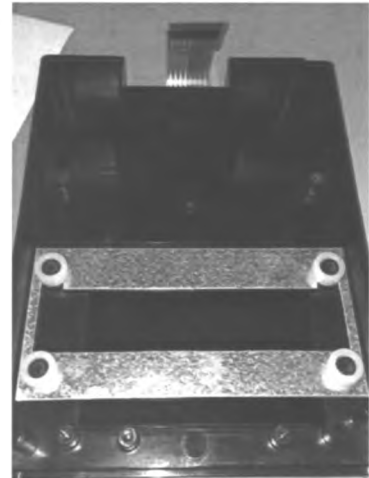

Figure 5
10. Remove the four white spacers, lens bracket and lens from the panel. (Fig 5)